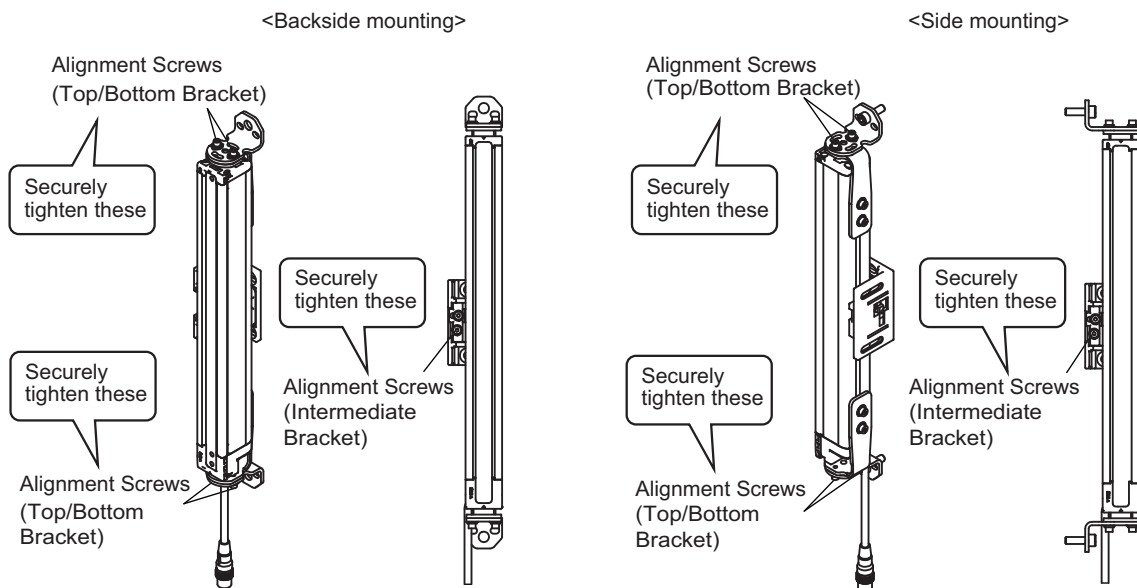

Fig. 10
8. Securely tighten the Alignment Screws of the Top/Bottom Bracket and Intermediate Bracket to fix the bracket to the F3SG-R housing. The recommended torque to tighten the Alignment Screws is 3.0 N•m. (Fig. 10)